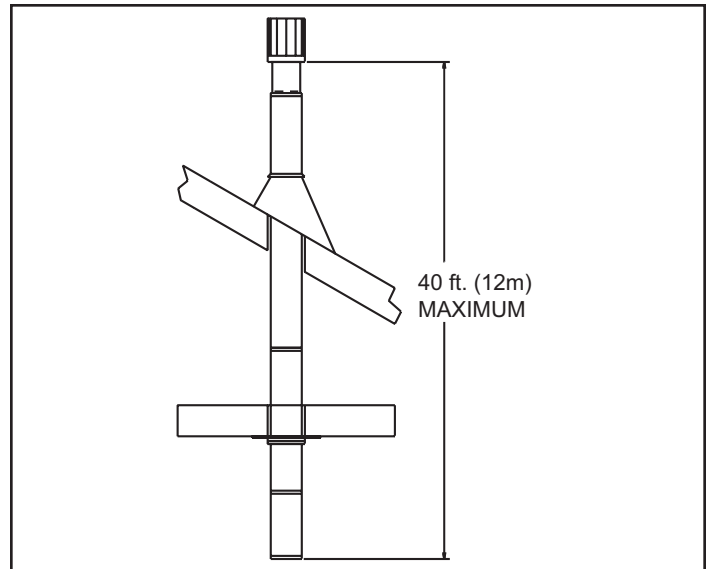

Figure 5.11
**NOTE:** Maximum vertical rise allowable is 40 ft. (12m) See Figure 5.11.